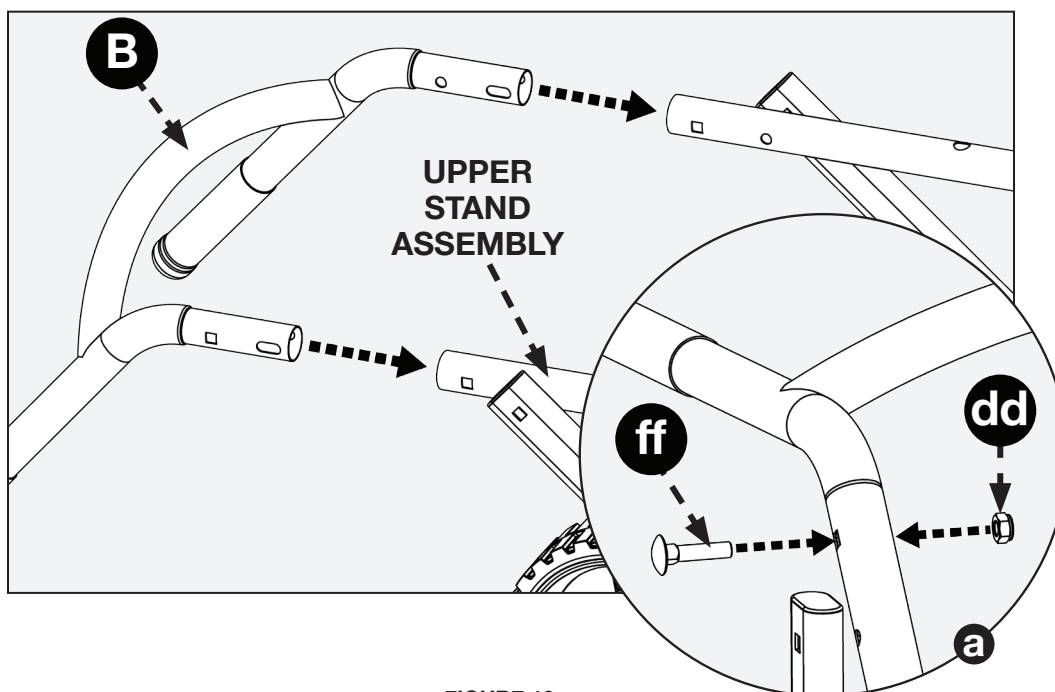

FIGURE 12
Insert the stand handle (B) into the upper stand assembly as shown in Figure 12.